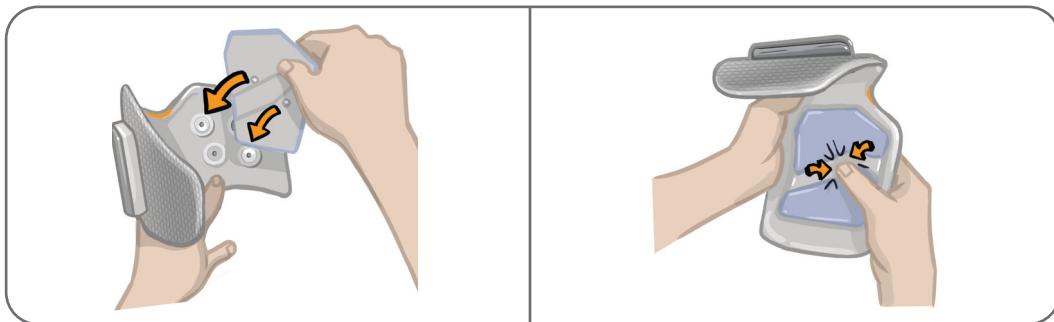

Figure 6-4: Aligning and Attaching the Quick Fit Electrode
5. Make sure the Cuff Snap Covers are in place. Align the orange and blue snaps on the Quick Fit Electrode with the orange and blue plug holes on the Lower Leg Cuff. See Figure 6-4.
6. Press firmly to snap the Quick Fit Electrode into the Lower Leg Cuff. See Figure 6-4.